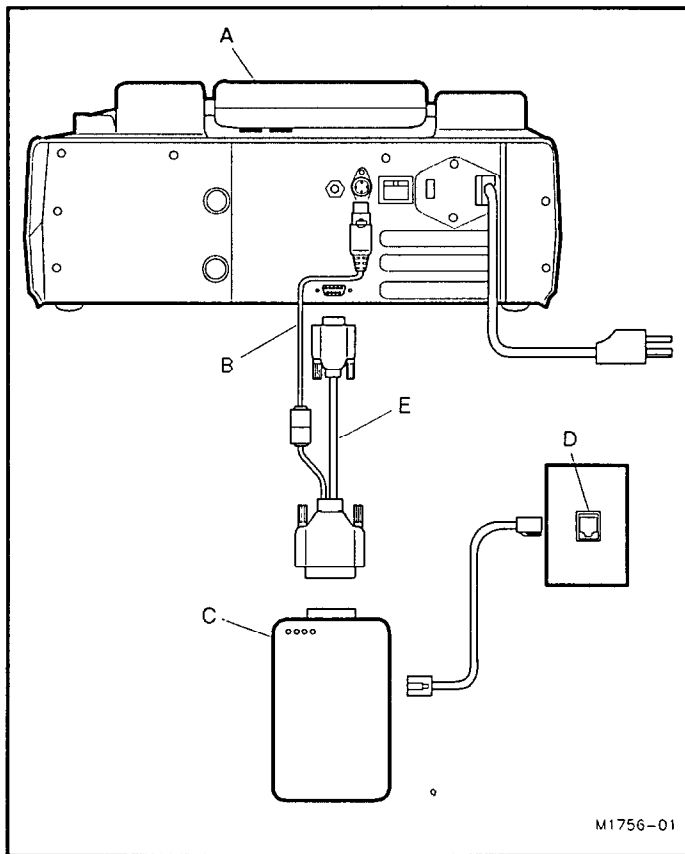

Figure 2-2. Connecting the Fax Modem Cables.
To install the fax modem, perform the following steps (see Figure 2-2):
3. Insert the larger connector end of the fax/modem cable (M1752-61600) into the RS-232C plug on the fax/modem, as shown in Figure 2-2.